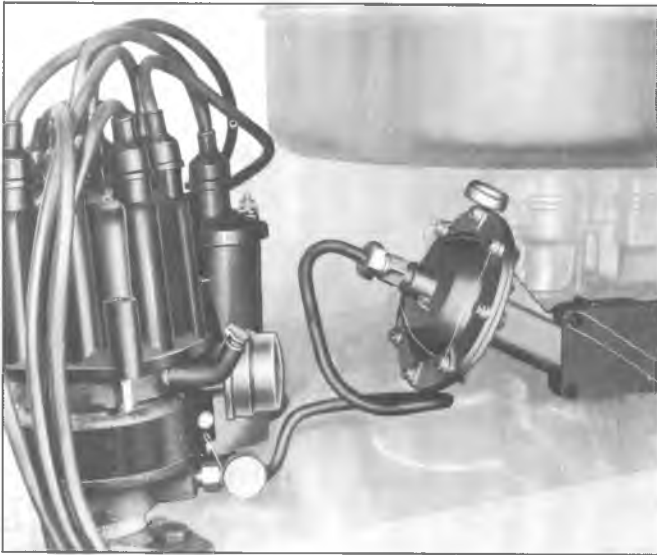

Fig. 1G—Distributor and Governor Mounting
7. Check again for free operation of the throttle shafts, then install the governor, cover and four attaching screws, and install lockwire (shown in Figure 1G).